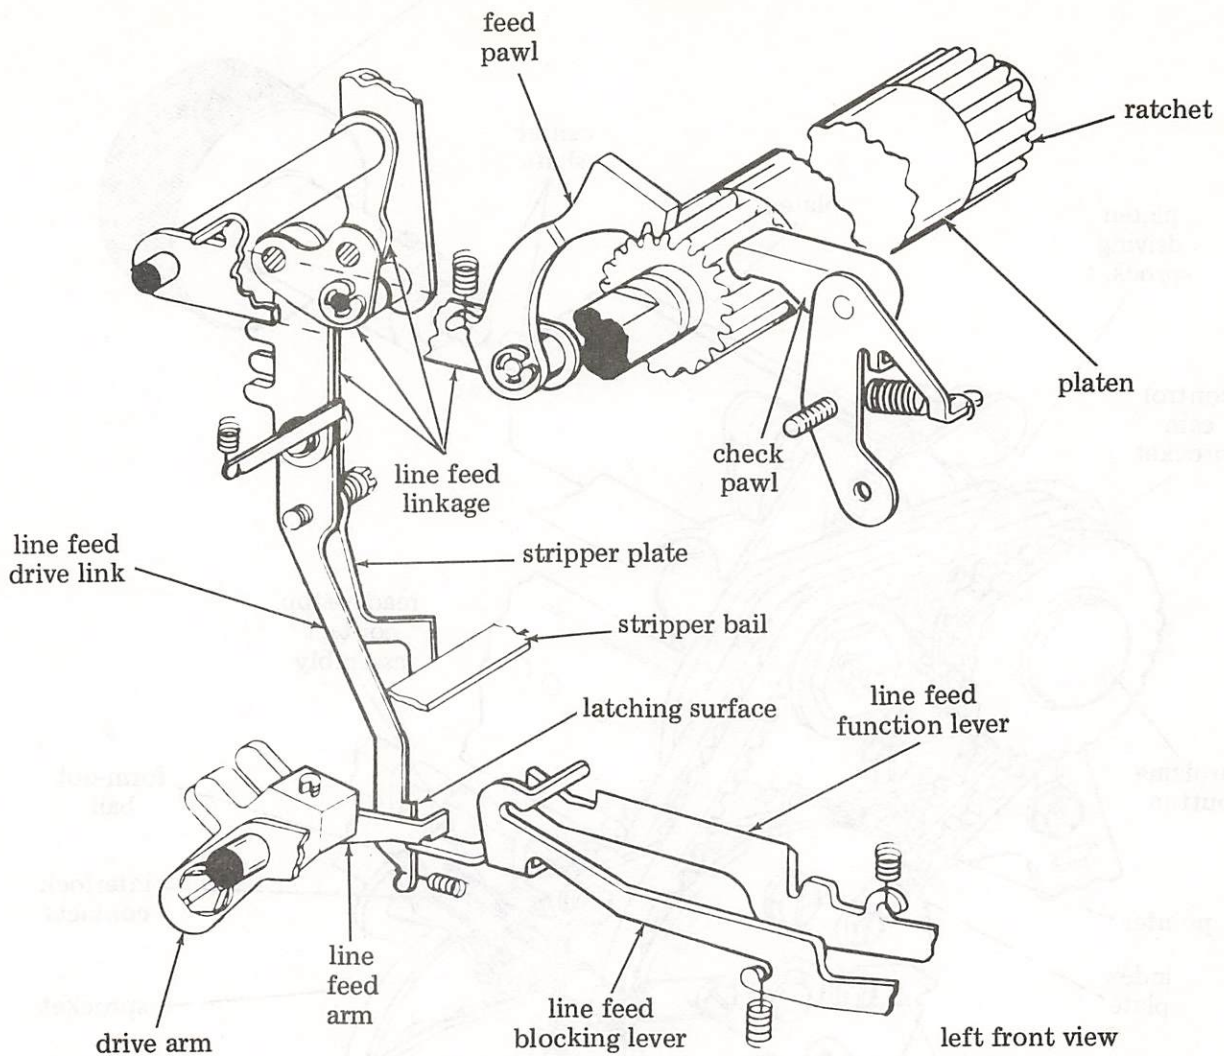

Figure 36 - Paper Feed Mechanism (Friction Feed)
4.102 The paper feed mechanism used on optional friction feed typing units is illustrated in Figure 36.